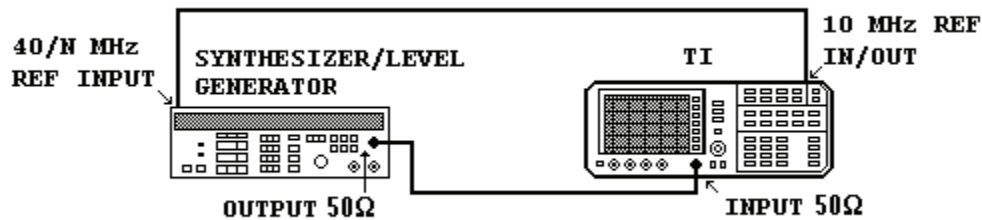

Figure 5. Frequency response - equipment setup.
(14) Repeat technique of (8) through (12) above setting synthesized signal generator frequency and TI [**CENTER FREQ**] to 13, 12.5, 12, 11.5, 11, 10.5, 10, 9.5, 9, 8.5, 8, 7.5, and 7 GHz. Measuring receiver indication will be within  $\pm 3$  dB of indication recorded in (7) above.
(15) Repeat technique of (8) through (12) above setting synthesized signal generator frequency and TI [**CENTER FREQ**] to 6.46, 6, 5.5, 5, 4.5, 4, and 3.5 GHz. Measuring receiver indication will be within  $\pm 2.5$  dB of indication recorded in (7) above.
(16) Repeat technique of (8) through (12) above setting synthesized signal generator frequency and TI [**CENTER FREQ**] to 2.9 GHz, 2 GHz, 1.5 GHz, 1 GHz, 500 MHz, 100 MHz, 50 MHz, and 20 MHz. Measuring receiver indication will be within  $\pm 1.5$  dB of indication recorded in (7) above.
(17) Set synthesized signal generator frequency to 10 MHz.
(18) Repeat (9) above.
(19) Press TI **FREQUENCY** key then [**CENTER FREQ**] to 10 MHz.
(20) Press TI **SPAN** key then [**SPAN WIDTH**] to 10 kHz.
(21) Press **MARKER PEAK SEARCH** key.
(22) Adjust synthesized signal generator level output for a TI **MKR** amplitude indication between -9.95 and -10.05 dBm.
(23) Measuring receiver indication will be within  $\pm 1.5$  dB of indication recorded in (7) above. Record measuring receiver indication.
(24) Connect equipment as shown in figure 5.